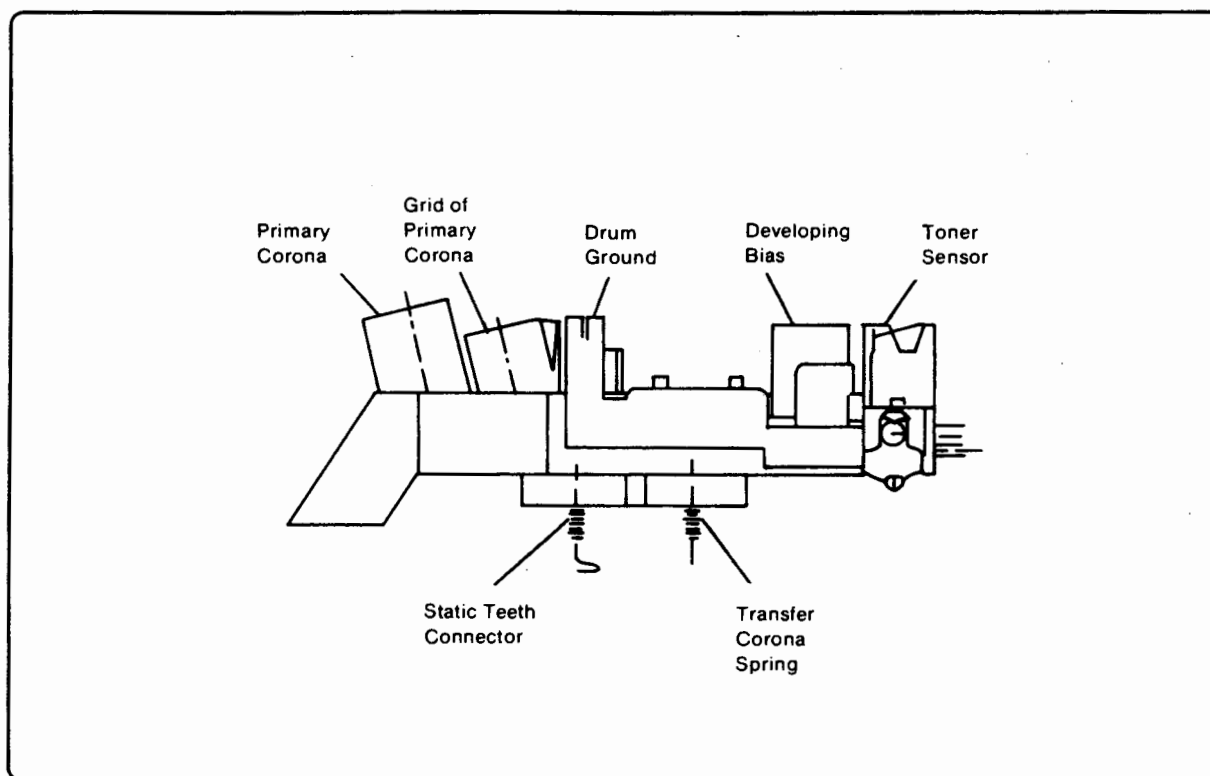

Figure 7-28. High-Voltage Power Supply Connector
<p>1. Are any of the following supply connectors damaged, corroded, dirty, or missing?</p> <ul style="list-style-type: none"> ■ Primary Corona connector. ■ Primary Corona Grid connector. ■ Drum Ground connector. ■ Developing Bias connector. ■ Toner Level Sensor connector (and connecting wire). 	<p>Visually inspect each item. (See Figure 7-28). If any of the items are damaged, correct as necessary. Replace the High-Voltage Power Supply if the connection is unable to be corrected. Ensure that all wires are connected to their respective terminals.</p>
3. Is the drum ground connector (see Figure 7-28) damaged?	Inspect. Replace the High-Voltage Power Supply Assembly if necessary.
4. Are the Transfer Corona Assembly spring connectors (located on the bottom of the High-Voltage Power Supply Assembly connector arm) dirty or bent?	Remove the High-Voltage Power Supply Assembly. Inspect the Transfer Corona spring connections (see Figure 7-28). Straighten or clean the connectors if necessary.